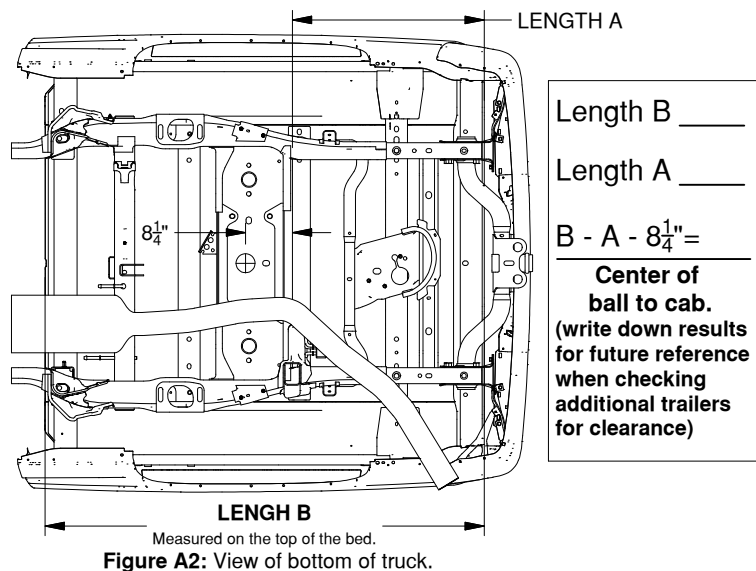
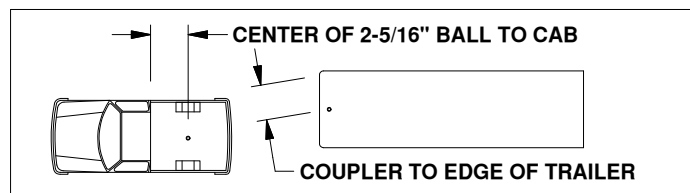

Figure A2: View of bottom of truck.
Figure A3: Truck and trailer diagram
1. **Determine cab clearance:** Under the truck bed, measure from the rear most edge of the C-channel frame cross member (over the axle) to the end of the bed, see Figure A2, Length A. Next, inside the bed, measure the length of the bed from the rear edge to the front, see Figure A2, Length B. Subtract the cross member measurement (Length A) from the bed measurement (Length B). Then subtract an additional 8-1/4" inches. This will give you the amount of clearance you have between the 2-5/16" ball location and the cab. Measure the distance from the center of the trailer's coupler to the farthest forward corner point of the trailer. Compare this distance to the measurement from the center of the ball to the cab. These measurements will allow you to see how much clearance you will have between the cab and the trailer while towing and turning, see Figure A3.